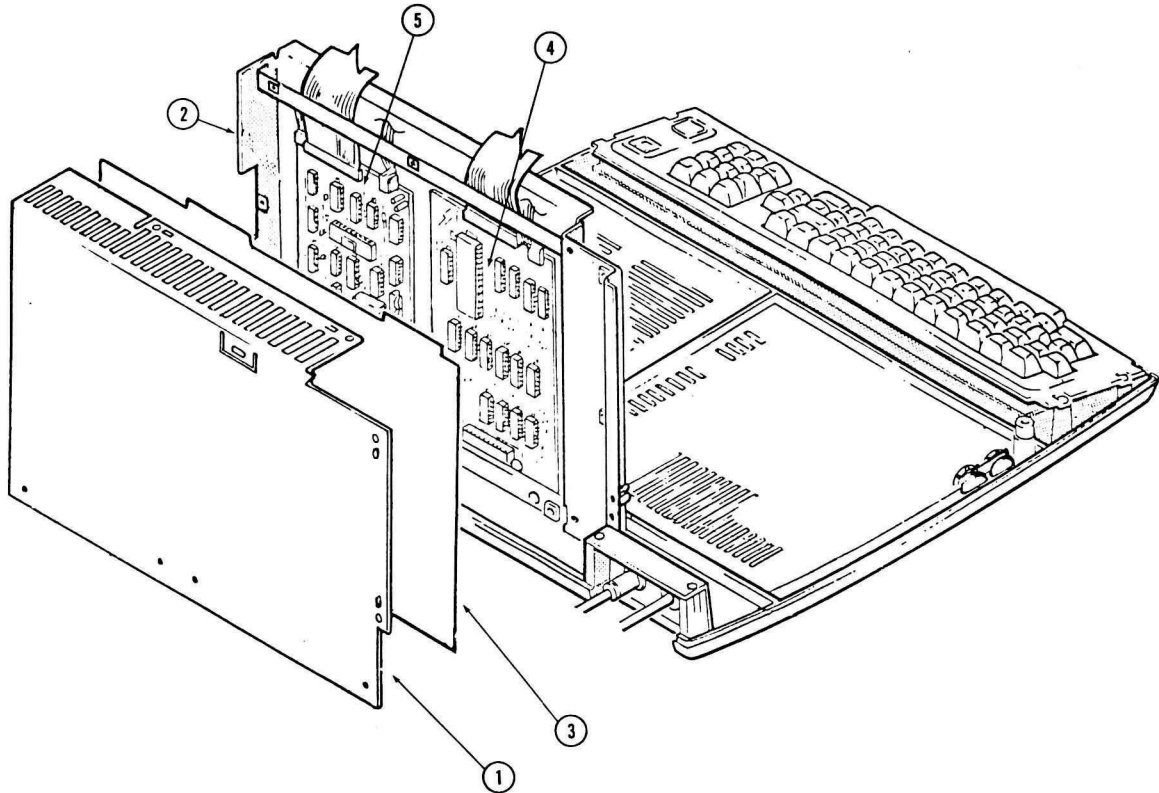

Figure 3. Model III Chassis Assembly
7. Remove the six screws which attach the Logic (CPU) Board RFI rear shield (if present) (Figure 3 Item 1 ), to the chassis (Figure 3 Item 2) and ground connectors. This shield is also held in place with tape along the lower edge. Carefully peel the tape away from the bracket so that the tape can be reused.
8. Disconnect all cables (power supply, video, keyboard, floppy disk, RS-232 board and cassette) from the Logic (CPU) board (Figure 3 Item 3).
11. Disconnect the power from the RS-232 and the Floppy Disk Controller (FDC) boards (Figure 3 Items 4 and 5) and be sure to label the connectors.